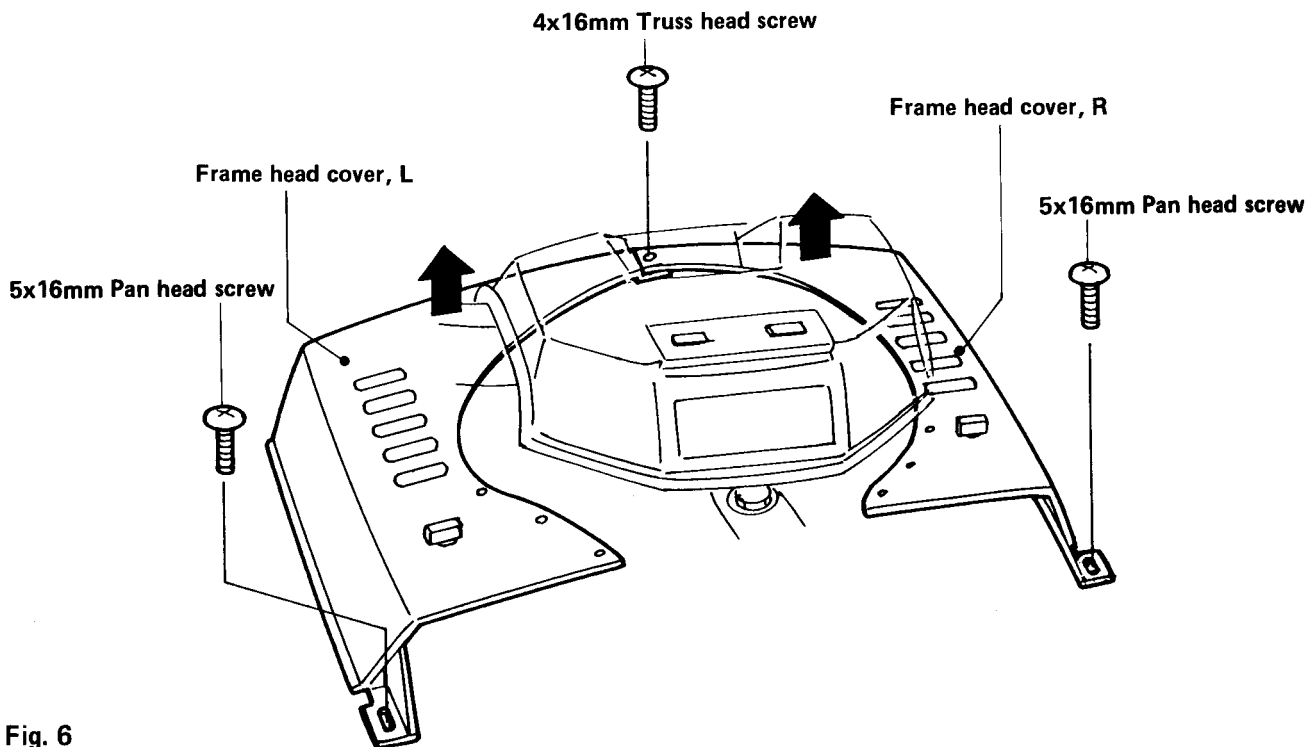

Fig. 6
6. Detach the right and left frame head covers by removing the three screws as shown in Fig. 6.